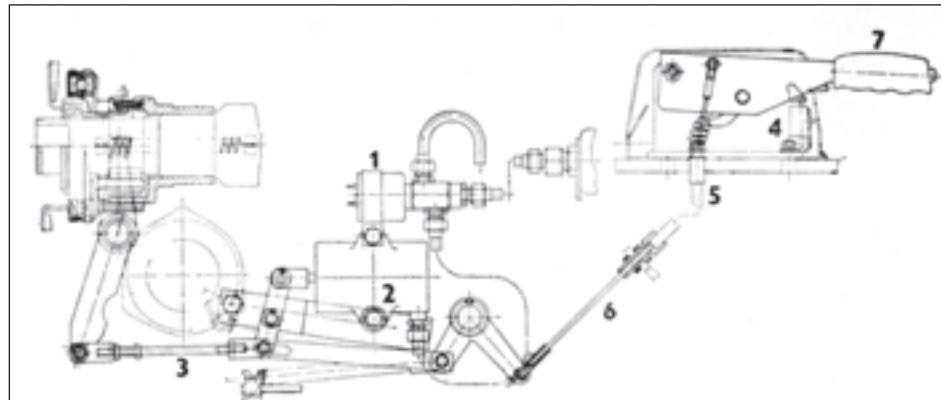

Fig. 88
2. **Pneumatic control with mechanical linkage** (Fig. 88) consists of a hand-operated lever (Fig. 88/7), the switch (Fig. 88/4) which controls the electromagnetic valve (Fig. 88/1) and the pneumatic cylinder (Fig. 88/2) by means of electric circuit and the clutch of the P.T.O.-shaft by use of mechanical transmission equipped with an adjustable bar (Fig. 88/3).
After the lock nut has been released, rotate the adjusting bar (Fig. 88/3) and adjust the play to 4 mm. Having checked the correct play, secure the adjusting bar with the lock nut.